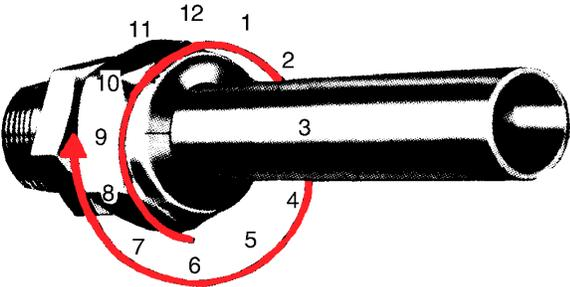

Figure 35-4. Installation of Swagelok Fittings
3. Swageloc Fitting Installation (Refer to Figure 35-4)